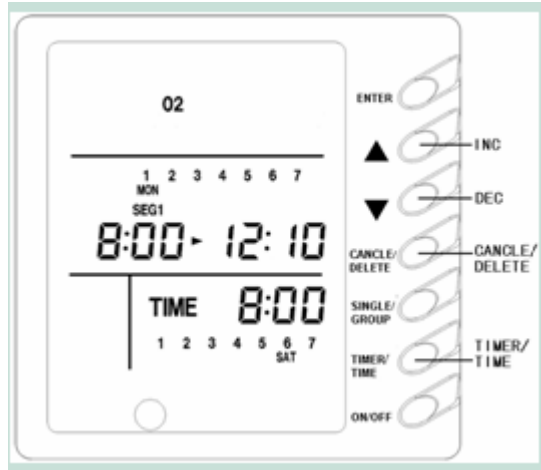

Fig.15.
5.4 Check Unit On/Off and Timer (fig.15)